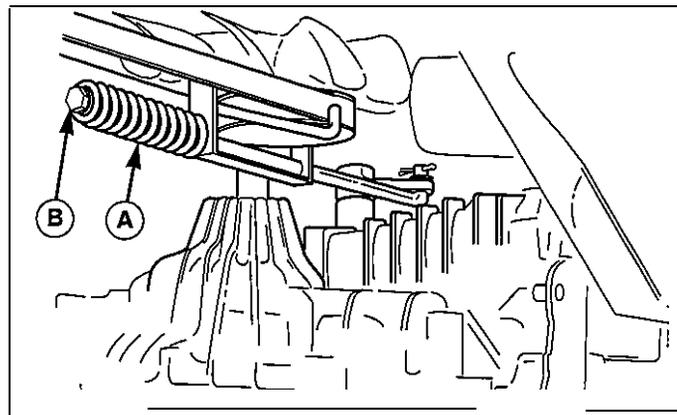

Figure 37. Brake Adjustment Nut
3. Locate the brake spring (A, Figure 37) and adjustment nut (B).
4. With the parking brake disengaged check the brake spring (A) for movement. The spring should not be loose.